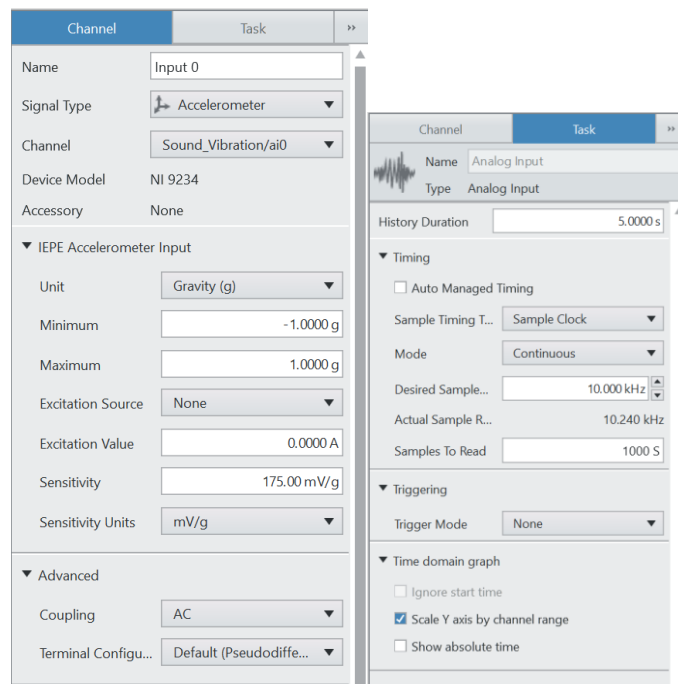

Figure 7-4 The configuration pane contains measurement parameters for the measurement panel.
- To set up the measurement task, use the configuration pane on the right to set the Channel and Task settings as shown in Figure 7-4.